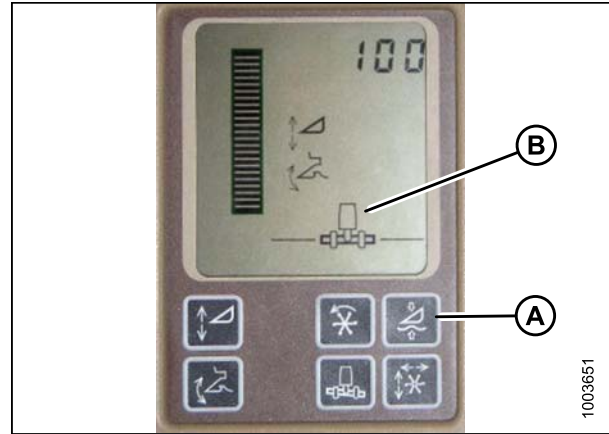

Figure 3.179: John Deere Combine Display
Do **NOT** use the active header float function (A) in combination with the MacDon auto header height control (AHHC)—the two systems will counteract one another. The header symbol (B) on the display should NOT have a wavy line under it and should appear exactly as shown on the Active Header Control Display in Figure 3.179: *John Deere Combine Display*, page 140.